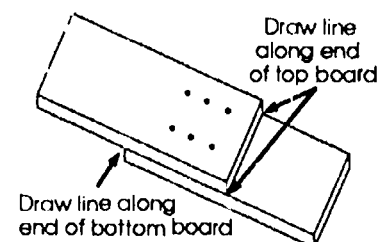

Figure 5. Draw the lines as indicated here
6. Using a pencil, draw lines on each pair of boards as indicated in Figures 5 and 6. These lines allow you to determine if the boards move when stress is applied.